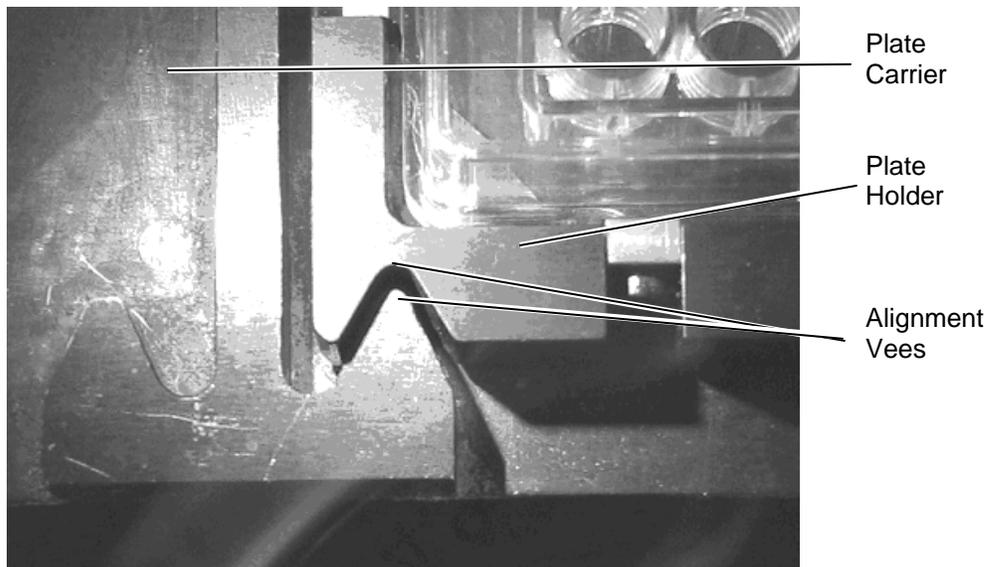

Figure 3-7 Plate Alignment Vees
Note: If only a slight adjustment to the coordinates is necessary, it is easier to check for proper alignment at the alignment Vees shown in Figure 3-7. For coarser adjustments, begin with the spigot alignment, then move to the alignment Vees.
- 4 As clamping begins (i.e. the clamp body drives into the pick-up block), refer to Figure 3-7 for correct positioning in the Y direction. Adjust the Y coordinate as necessary. With the alignment Vees positioned as shown, the plate holder assembly is approximately five to ten steps from the rear of the plate carrier. This is the ideal positioning (i.e. with the plate holder closer to the rear of the carrier than to the front).
- 5 Select **Put Plate** while observing the positioning of the plate carrier and the plate holder assembly alignment Vees (Figure 3-7). They should align as shown; if not, adjust the X or Y coordinates.